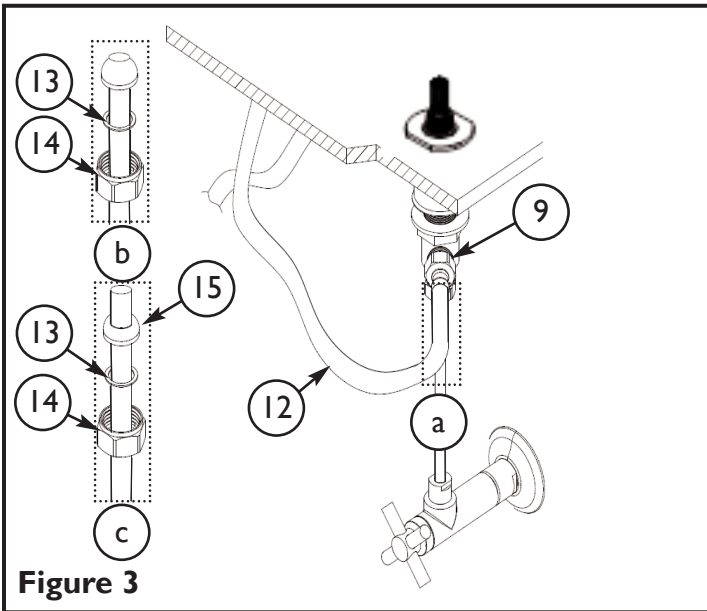
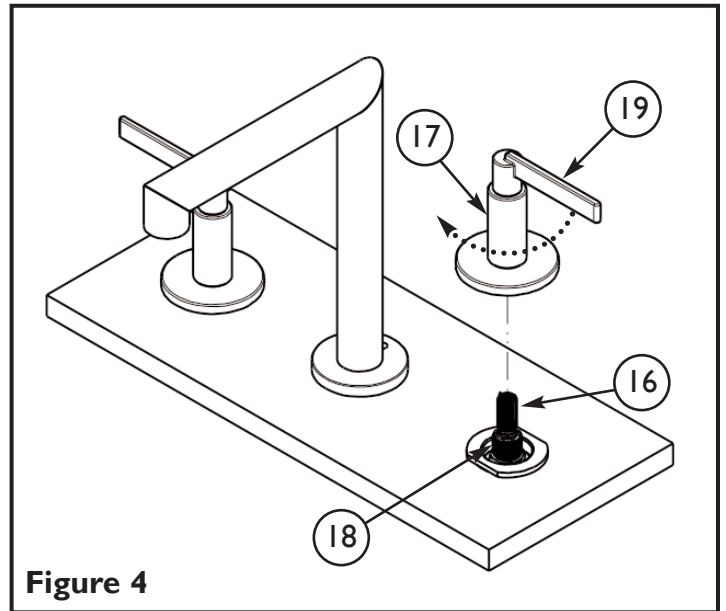

Figure 3
Figure 4
4. Connect hot/cold water supply to appropriate  $\frac{1}{2}$ " NPSM valve BODY (9), utilizing one of the three following types of risers. Supply risers not included. See **Figure 3**.
- a.  $\frac{1}{2}$ " IPS flexible riser: discard rubber nosecone WASHER (15), friction WASHER (13) and coupling NUT (14).
- b.  $\frac{3}{8}$ " or  $\frac{1}{2}$ " OD bullnose riser: utilize friction WASHER (13) and coupling NUT (14).
- c.  $\frac{1}{2}$ " copper riser: utilize rubber nosecone WASHER (12), friction WASHER (13) and coupling NUT (14).
5. Secure HANDLE (19) into place by first engaging the STEM (16) and then threading HANDLE BODY (17) onto CARTRIDGE (18). Any adjustments for rotational alignment must be made to the valve BODY (9), not to the CARTRIDGE (18). See **Figure 4**.